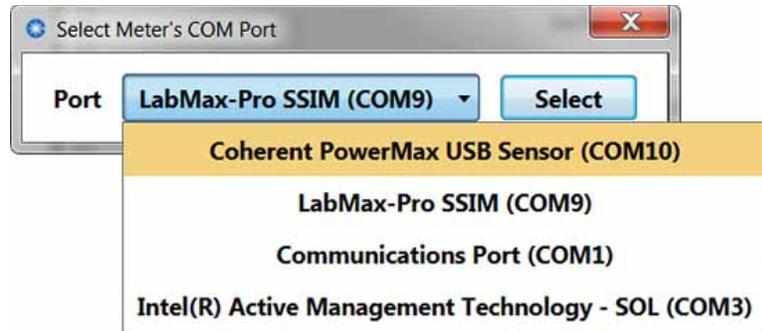

Figure 2-33. License Manager – Select PowerMax USB Sensor
2. The existing dialog is displayed that lists all available meters, including any legacy devices. As shown in the example in Figure 2-33, select the COM port for PowerMax USB and click Select.